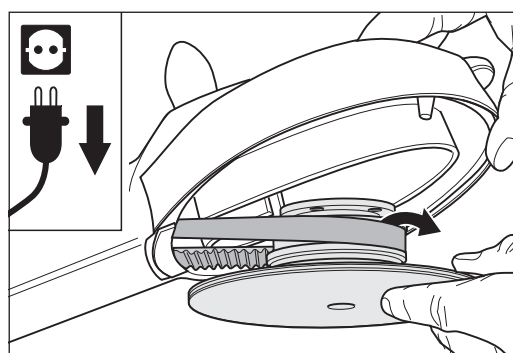

Fig. 73 Inserting the belt disc into the V-belt.
- 17** At the front of the attachment, insert the belt pulley of the bearing unit of the sanding disc wheel into the V-belt (Fig. 73).